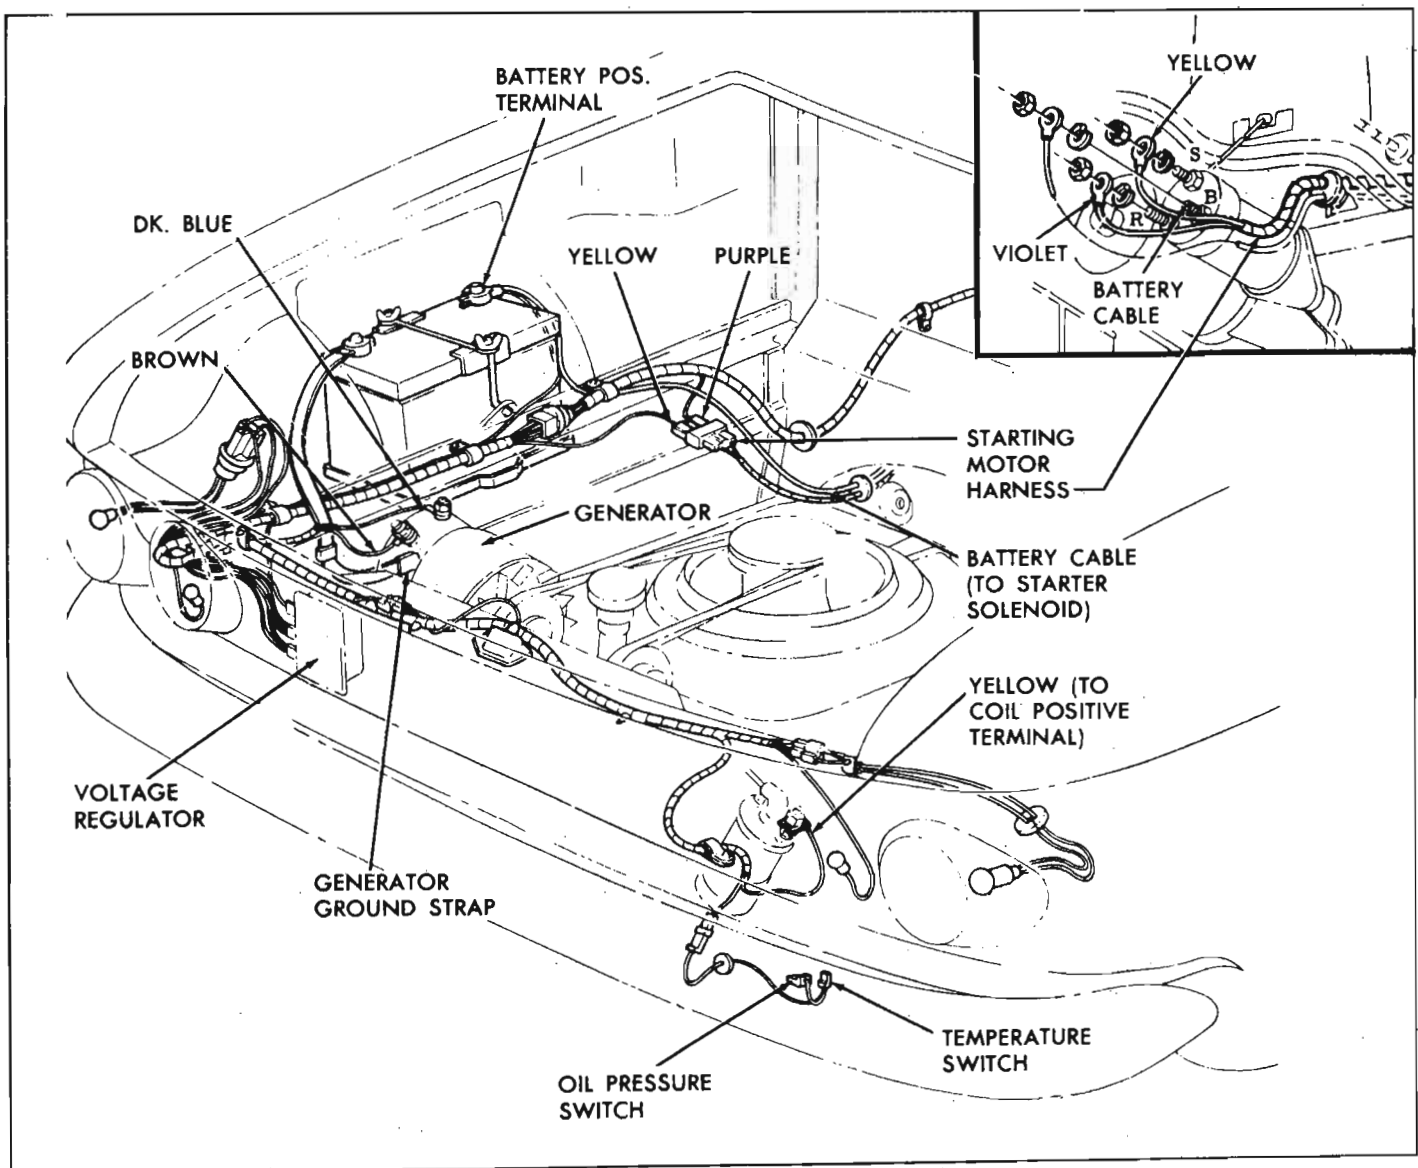

Fig. 6-3—Electrical Connections
7. Make the following electrical disconnections (fig. 6-3).